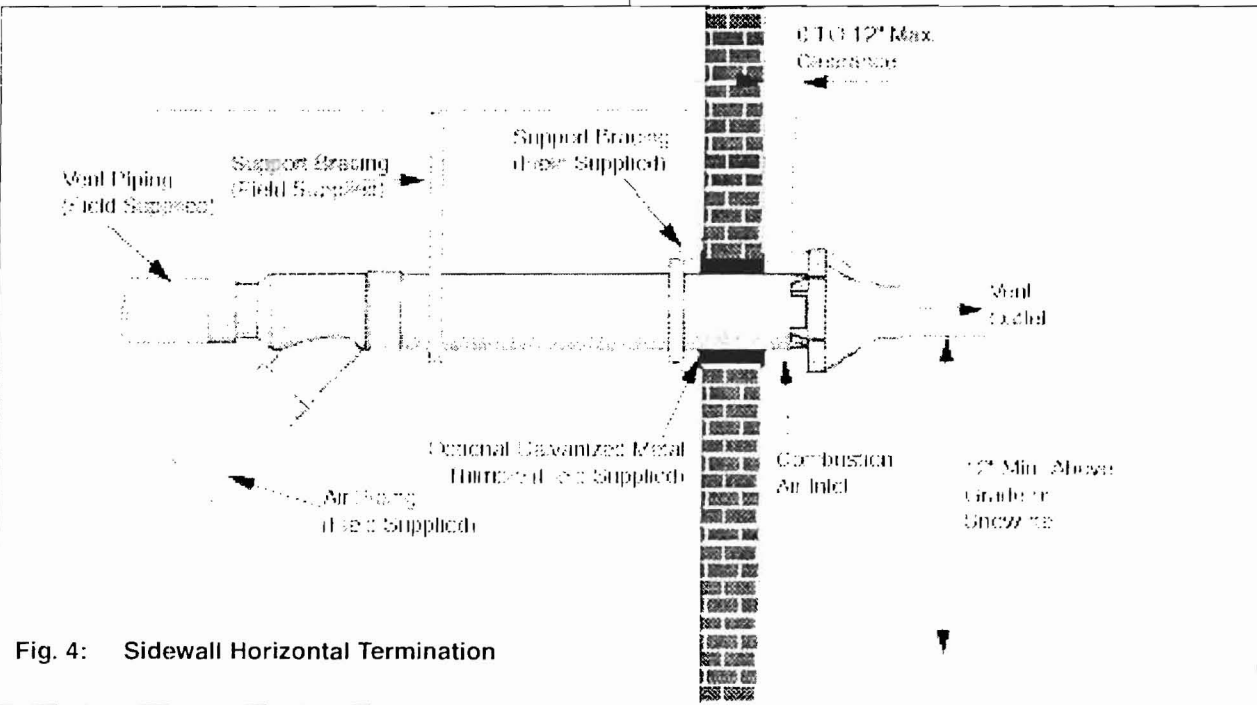

Fig. 4: Sidewall Horizontal Termination
2. The concentric vent/air termination assembly must be installed 12 inches above grade or projected snowline as shown in Fig. 4
Do not extend the vent pipe outside the sidewall beyond the given dimensions shown in Fig. 4. Extended exposure of the vent pipe could cause condensate to freeze and block the vent pipe.